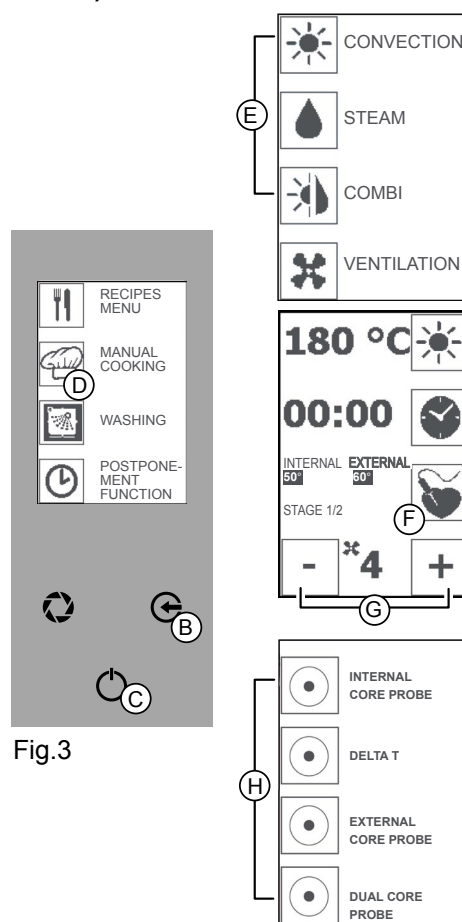

Fig.3
Press the "GO!" button (Fig 3/A) to access the main menu.
Press the "MANUAL COOKING" icon (Fig 3/D) and select a cooking mode (Fig 3/E).
5. Press the "CORE PROBE" icon (Fig 3/F) and the "DOUBLE CORE PROBE" (Fig 3/H) icon. Press the "CORE PROBE" icon (Fig 3/F) and use the "MINUS" and "PLUS" icons (Fig 3/G) to set the temperature for the internal core probe.
6. Press the "CORE PROBE" icon (Fig 3/F) and use the "MINUS" and "PLUS" icons (Fig 3/G) to set the temperature for the external core probe. Press the "CORE PROBE" icon (Fig 3/F) to confirm.
Press the "ENTER" key (Fig 3/C) to start cooking.
Press the "ENTER" key (Fig 3/C) and press the "ESC" key (Fig 3/B) several times to return to the Home Page.
Press the "ESC" key (Fig 3/B) several times to return to the Home Page.